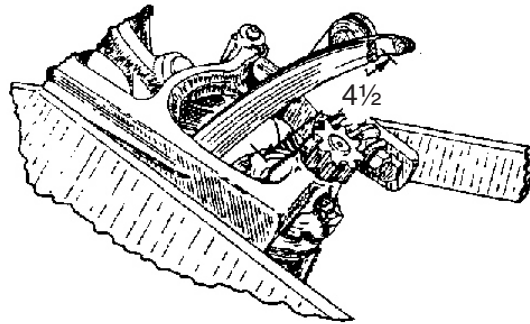

Figure 109. Needle Eye To The Twine Disc
3. Trip the knotter and turn the flywheel counterclockwise, by hand, until the needles are in the uppermost position. The distance from the bottom of the needle eye to the twine disc should be 4 - 1/2" (see Figure 109).